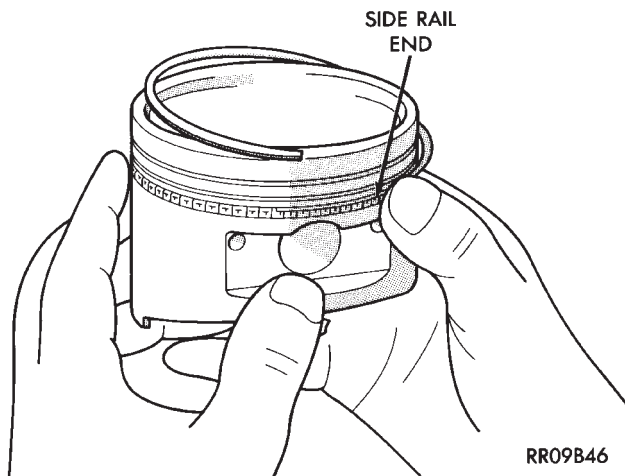
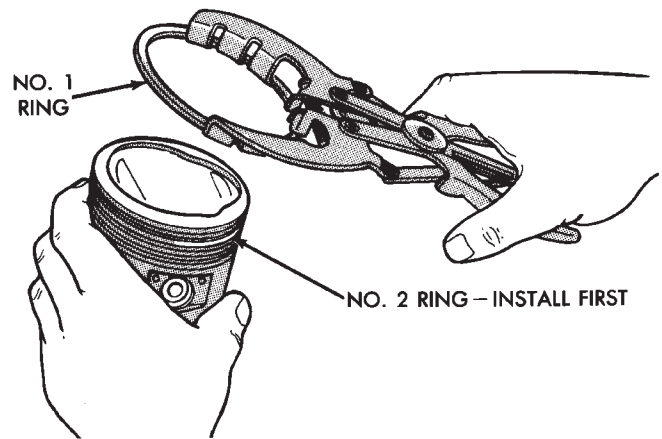

Fig. 11 Installing Side Rail
Fig. 12 Installing Upper and Intermediate Rings
(2) Install the side rail by placing one end between the piston ring groove and the expander. Hold end firmly and press down the portion to be installed until side rail is in position. **Do Not use a piston ring expander** (Fig. 11).
(3) Install upper side rail first and then the lower side rail.
(4) Install No. 2 piston ring and then No. 1 piston ring (Fig. 12).